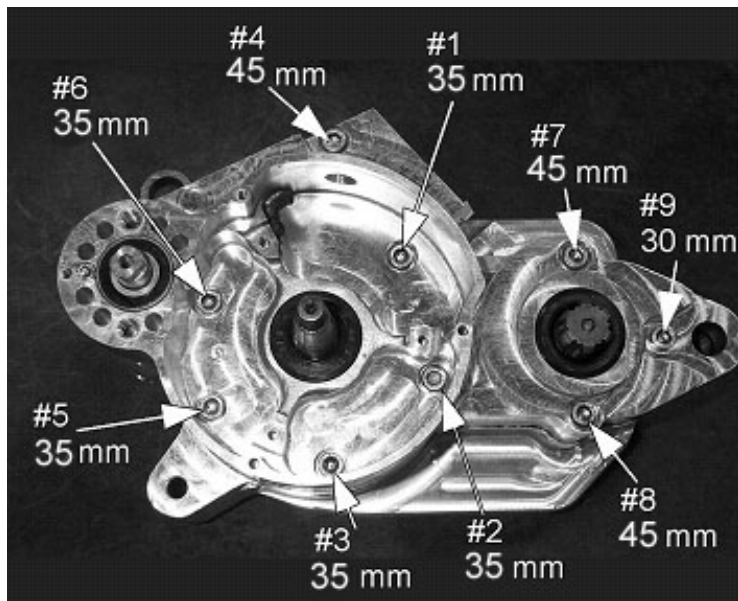

Figure 28
16. Torque to 12 Nm (105 in-lb) in the pattern shown in figure 28.